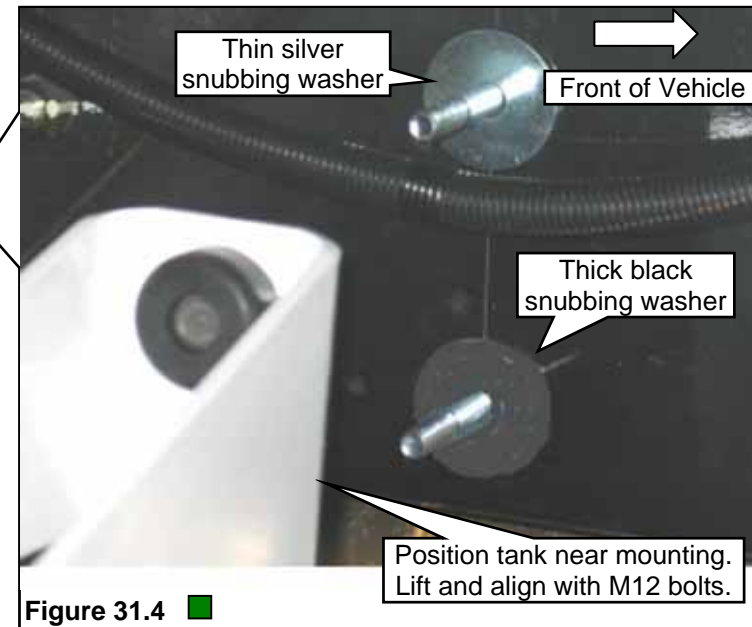

Figure 31.4
3. Install snubbing washers, one on each bolt at the mounting locations. Position the tank closer to the mounting bolts on the right frame rail. Lift and align the tank with the four mounting bolts. **Figure 31.4.**